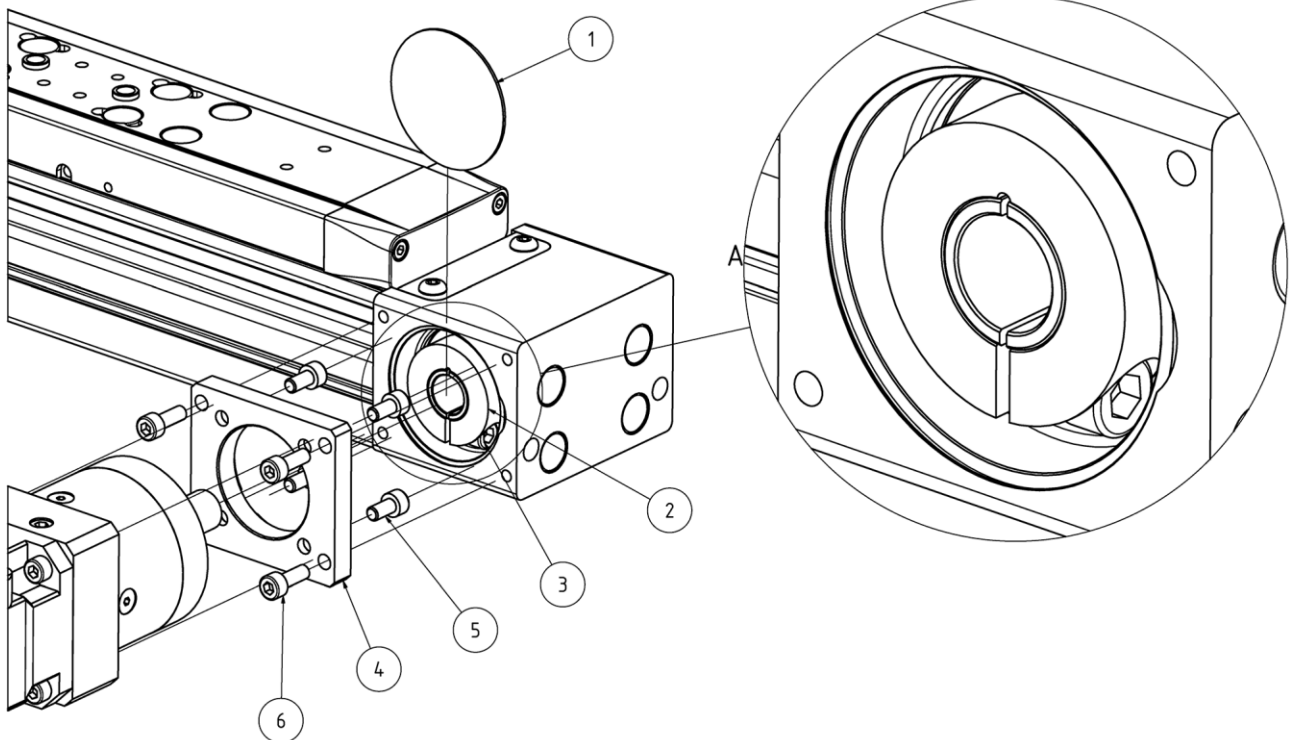

Figure 5: Assembly of drive
Clamp collar must abut to the pulley shoulder. The slot in the clamp collar must be aligned to the slot in the pulley. Please refer to (please refer to Figure 5 detailed view A.)
- ◆ Adjust clamp collar (please refer to Figure 4, Pos. 2) and pulley. Manually push carriage so that the clamping screw (please refer to Figure 4, Pos. 3) is accessible through the front mounting bore of the deflection station. For size HLR070, remove the corresponding plug from the return station so that the clamping screw (see Figure 5 Pos. 3) can be reached with the tool.
- ◆ Remove cover lid (see Figure 5, Pos. 1) on the desired side of one of the two deflection stations.
- ◆ Push clamp collar (please refer to Figure 5, Pos. 2) incl. clamping screw (please refer to Figure 5 Pos. 3) onto the pulley. The clamping surface between pulley and clamp collar must be free of oil and grease.
Clamp collar must abut to the pulley shoulder. The slot in the clamp collar must be aligned to the slot in the pulley (see Figure 5 detailed view A).
- ◆ Adjust clamp collar (please refer to Figure 5, Pos. 2) and pulley. Manually push carriage so that the clamping screw (please refer to Figure 5, Pos. 3) is accessible through the front mounting bore of the deflection station.
For size HLR070, remove the corresponding plug from the return station so that the clamping screw (see Figure 5 Pos. 3) can be reached with the tool.
- ◆ Mount the HLR gear flange (see Figure 5, Pos. 4) to the gear output side using the gear screws (see Figure 5, Pos. 5). For screws please refer to Table 5.
- ◆ Screw in the screws (see Figure 5, Pos. 6) and place them lightly against the gear flange (do not tighten).
Tightening torque clamp collar (please refer to Figure 5, Pos. 3)
Tightening torque gear screws (please refer to Figure 5, Pos. 5)
Tightening torque drive flange (please refer to Figure 5, Pos. 6)